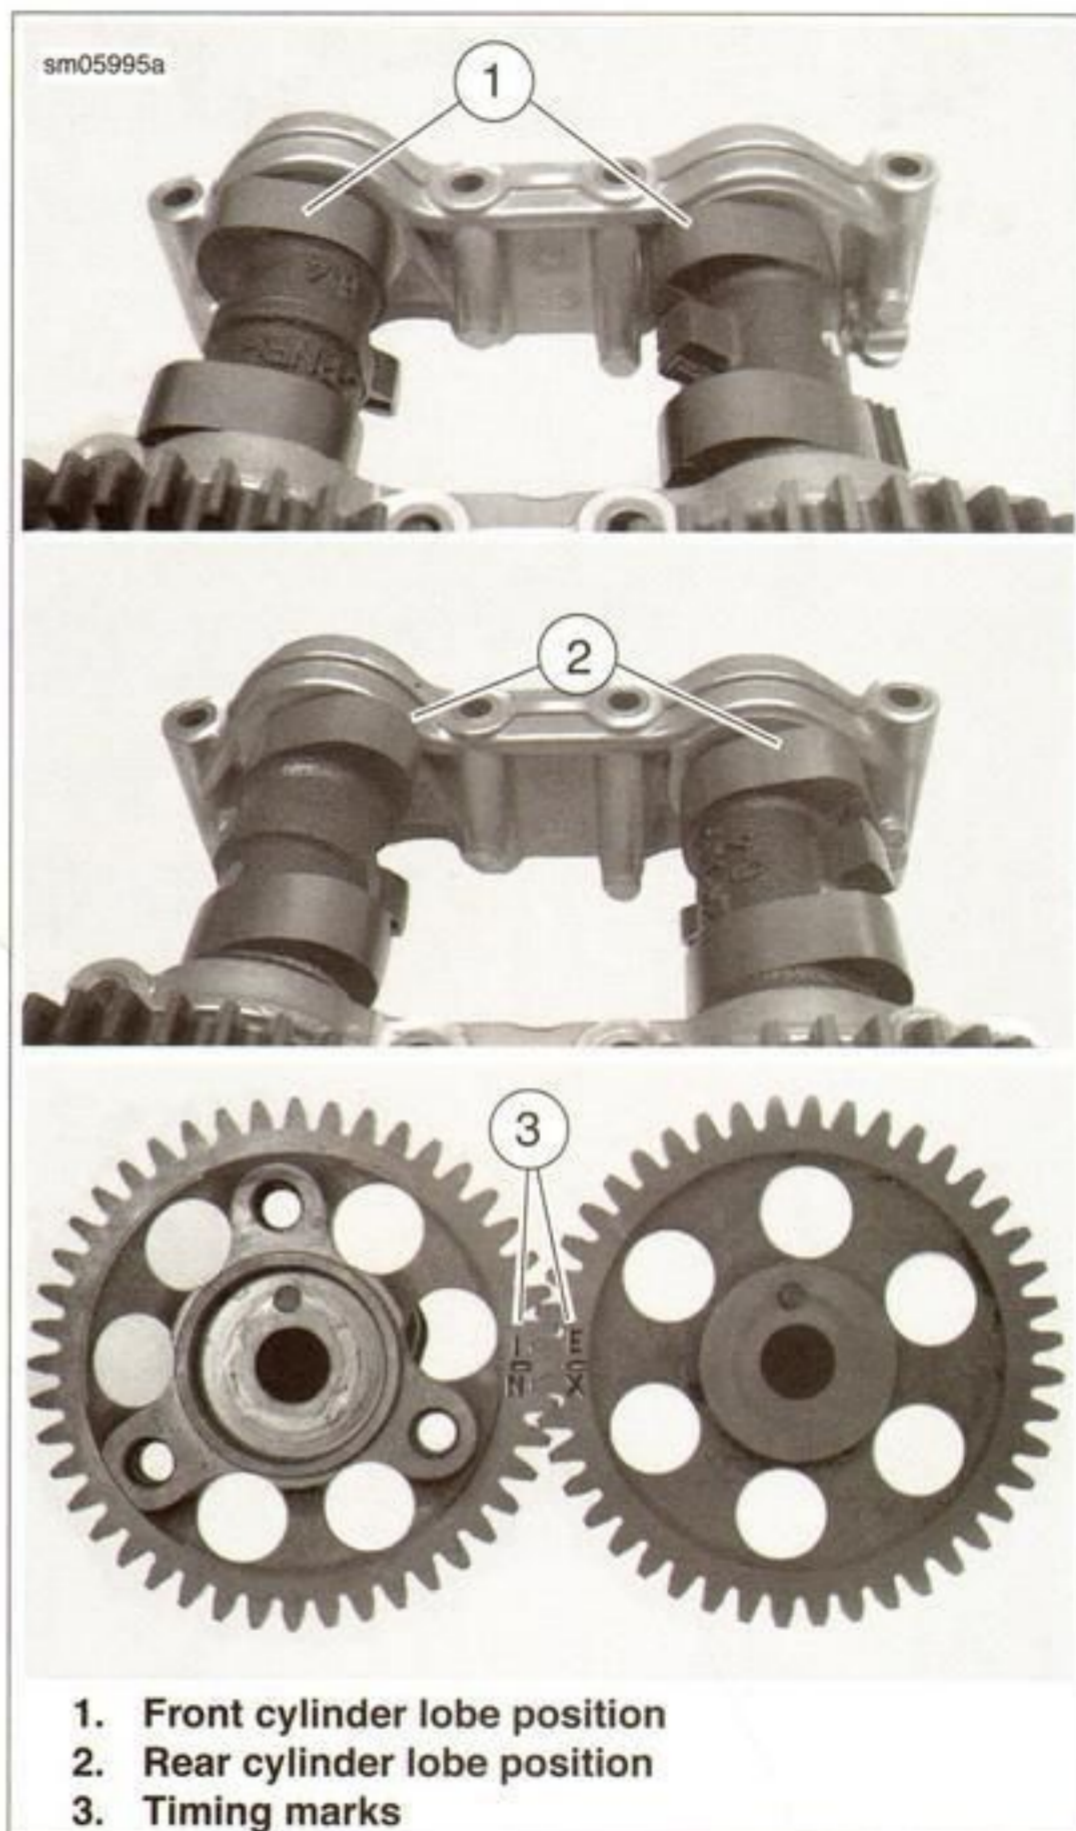

Figure 3-80. Camshaft Timing
- a. See Figure 3-80. Install camshaft gears on camshafts. Camshaft lobes (1, 2) must be in positions shown, and timing marks (3) on gears must line up.